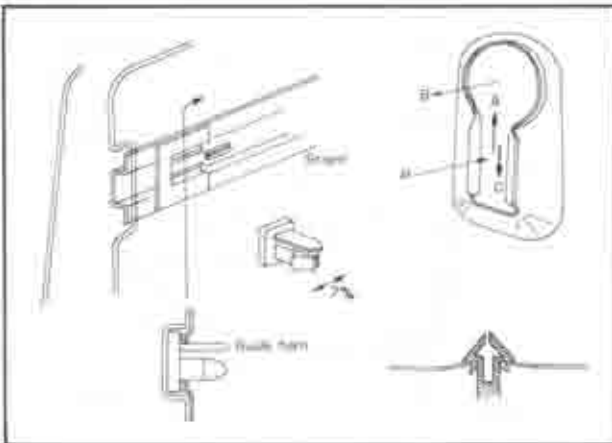

Fig. 14-40 Rear seat back
3. Raise the seat to full up position and pull it in the B direction shown in Fig. 14-40.
2. Push the rear seat back attaching fastener in P direction and press it down into the catch of the body as shown in Fig. 14-40.